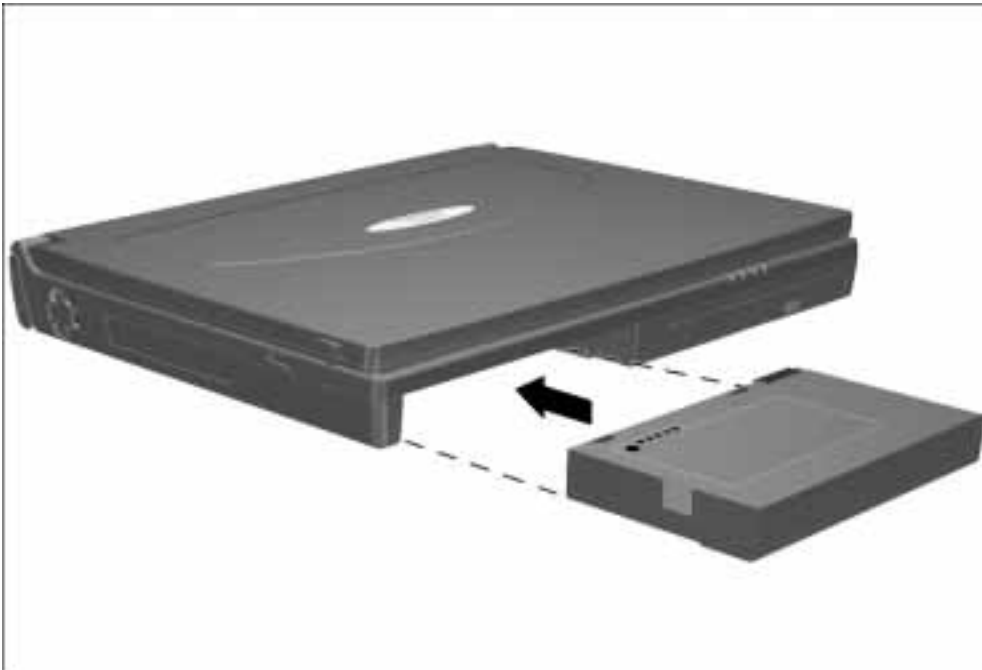

Figure 5-9. Inserting a Battery Pack
1. With the battery pack label facing up and the battery pack contacts facing the computer, slide the battery pack into the battery bay until it clicks into place (Figure 5-9).